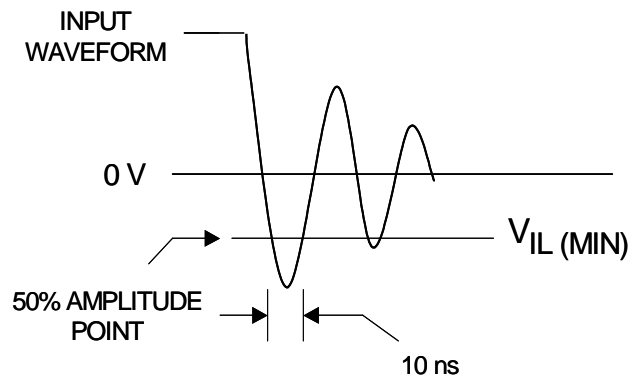

Figure 6: Input Signal Waveform
1. *-1.0 Volts for a duration of 10 ns measured at the 50% amplitude points for Input-only lines (see Figure 6 on page 28).*